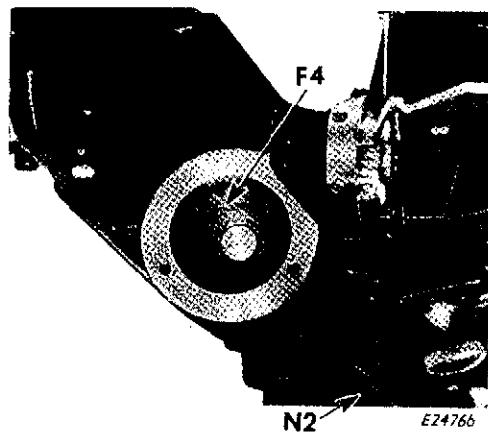

Fig. 54. Removing Hook Driving Shaft and Gear
1. Remove cover from gear case **Fig. 54.**